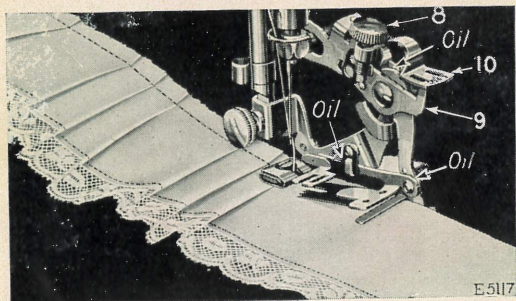

FIG. 41
The ruffler can be adjusted for group plaiting by lifting the adjusting lever (10, Fig. 41) and placing
it on top of the projection (9, Fig. 41) at the point indicated by the star on the adjusting lever. This should be done at the points where you wish to make the space between the plaits. The ruffler will then stop and plain stitching will be made. When the desired space has been made, adjust the lever (10) so that the projection (9) enters the slot marked "5". By alternately making groups of plaits and plain spaces, as shown in Fig. 41, very attractive work can be produced.
Occasionally apply a drop of oil to the working parts of the ruffler at each of the places indicated by arrows in Fig. 41. After oiling, operate the ruffler on a waste piece of material to prevent the oil from soiling the work. If the ruffler does not plait evenly, a drop of oil may remedy the trouble.